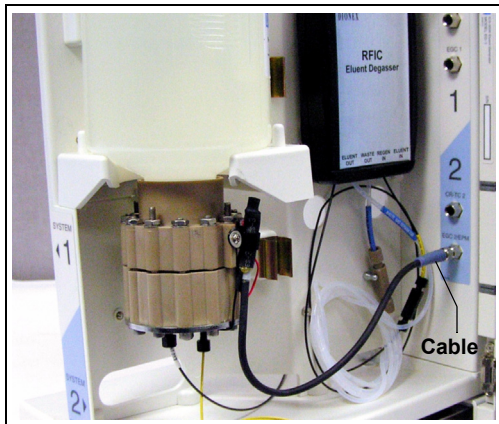

Figure 9-17. Connecting the EluGen Cartridge Electrical Cable
10. Push the cartridge's blue electrical cable connector onto the **EGC 1** (or **EGC 2**) bulkhead connector (see Figure 9-17). Twist the ring on the cable connector fingertight to secure it.